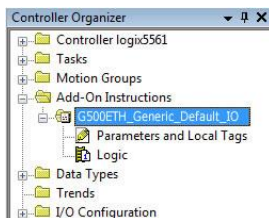

Figure 35: Generic Default IO Add-On Instruction
- 2) Right click on "Add-On Instructions" in the controller organizer view and select "Import Add-On Instruction". Browse and import the generic default I/O add-on instruction. Refer to Figure 35.